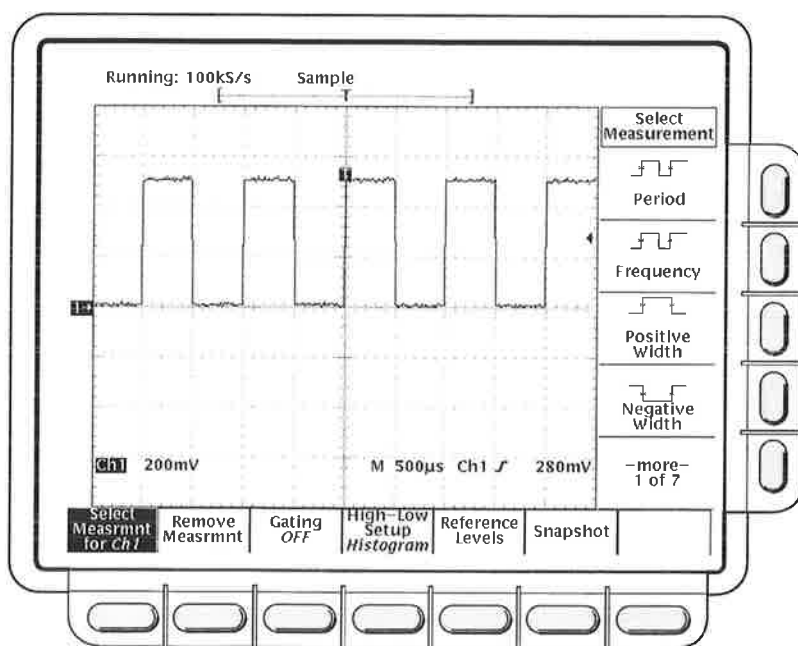

Figure 1-14: Measure Main Menu and Select Measurement Side Menu
4. Press **MEASURE** to display the Measure main menu (see Figure 1-14).